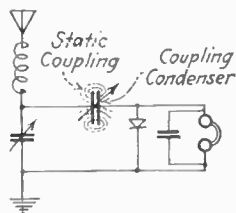

FIG. 50.—Static coupling.
*Electrostatic coupling* takes place through a condenser, as shown in Fig. 50. Here, the energy is passed from the antenna circuit to the rectifier in electrostatic form by means of the coupling condenser. The lower the capacity of this condenser, the looser will be the coupling, and the greater the capacity, the tighter the coupling.